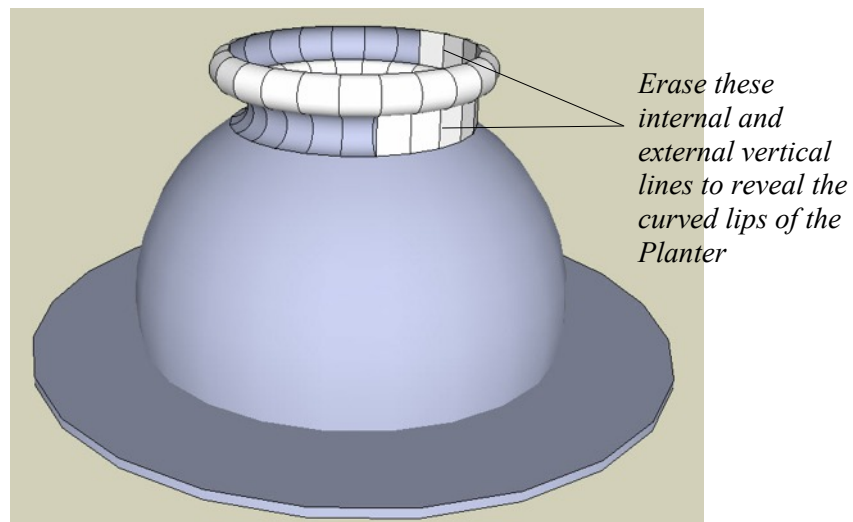

Figure 100. The completed top of the Planter with the vertical faces partially deleted
- Still in the X-Ray drawing style, use Follow Me to rotate the top edges of the Planter as shown in Figure 100.
- Use the **Eraser** to delete the vertical lines so that the curves at the lip of the Planter are visible as shown in Figure 100.